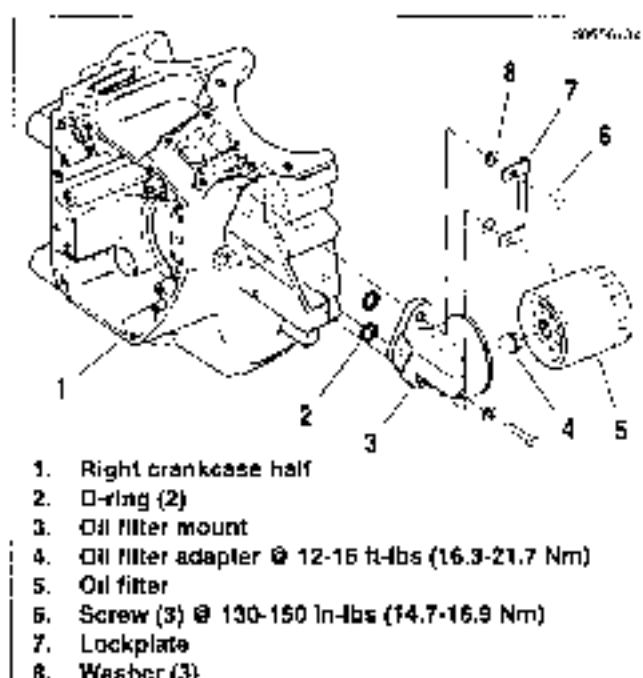

Figure 3-151. Oil Filter Mount Assembly
1. To catch any oil that may drain out of the engine, place a suitable container under the vehicle, directly under the oil filter mount on the front of the engine. See Figure 3-151.
2. See Figure 3-151. Remove oil filter (5) using OIL FILTER WRENCH (Part No. HD-42311 or HD-44067). Discard oil filter.
3. Remove oil filter adapter (4).
4. Bend tabs on lockplate (7) away from two hex screw heads. Remove three screws (6) securing oil filter mount to engine crankcase. Remove lockplate, washers (8) and oil filter mount.
5. Remove and discard two o-rings (2).
1. See Figure 3-151. Clean oil filter mount (3) and oil filter adapter (4) in a non-volatile cleaning solution or solvent. Clean the oil filter mount flange of any old gasket material. Remove any thread locking adhesive material from the threads of the oil filter adapter.
2. Coat threads of three filter mount screws (6) with LOCTITE THREADLOCKER 243 (blue). Install filter mount with two new o-rings (2) and new lockplate (7) to crankcase with three screws and washers (8). Tighten screws to 130-150 in-lbs (14.7-16.9 Nm).
4. Coat the threads on one end of the oil filter adapter (4) with LOCTITE THREADLOCKER 243 (blue).